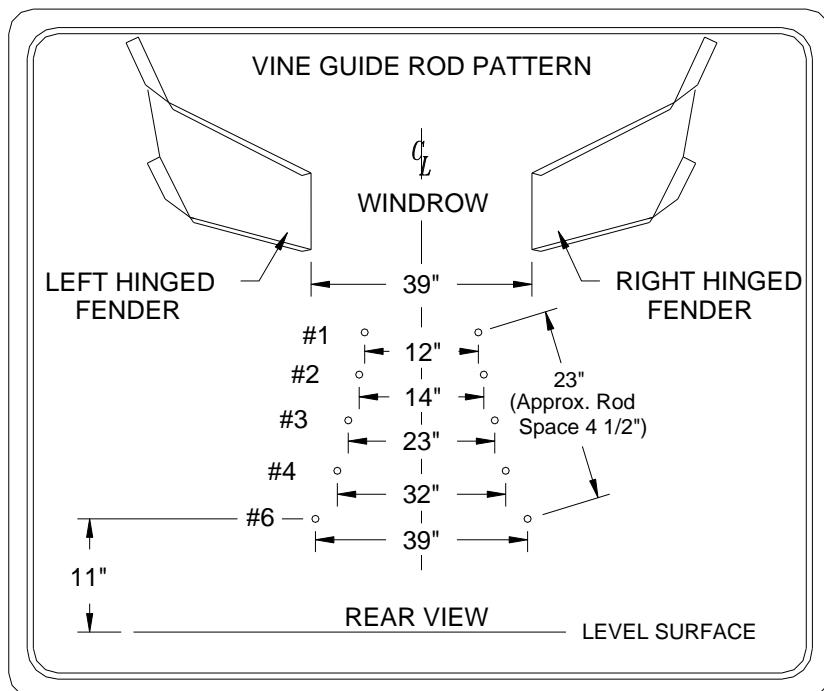

Figure 4 (For 4 & 6-Rows)
4. Check vine guide rod pattern (refer to Figure 4)